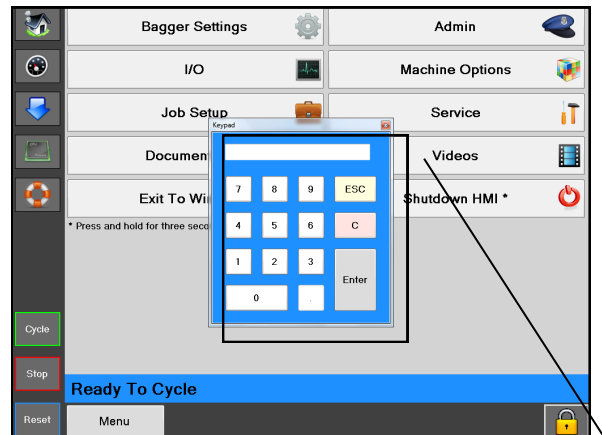

Figure 1-12C. Keypad
1. Touch the padlock Icon and enter the designated password. **Figure 1-12C.**